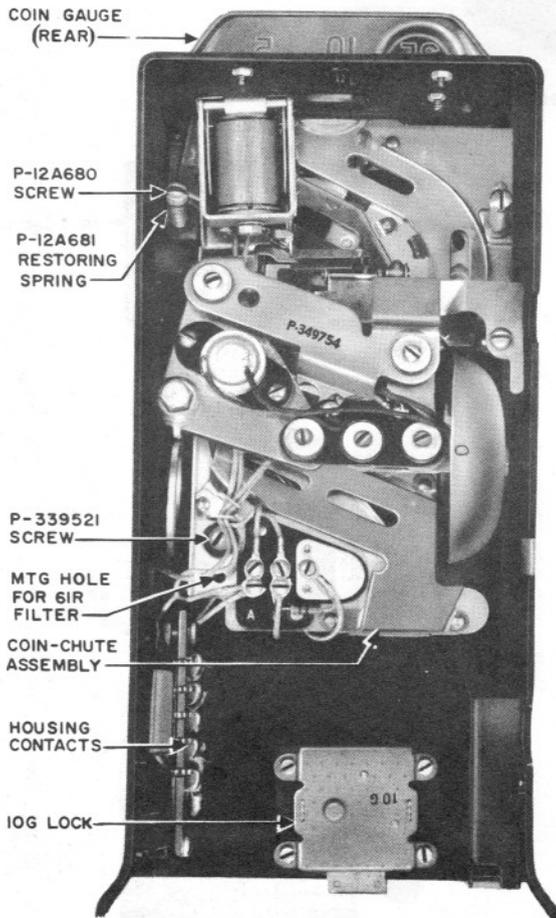

Fig. 9 - Upper Housing, Rear View
two P-12A680 screws, two P-12A681 restoring springs, and one P-339521 screw, as shown in Fig. 9. Coin chutes not associated with washer-reject mechanisms are mounted by three P-339521 screws.
4.13 A radio-frequency suppression filter, although it is attached to the coin chute, is not considered a part of the chute assembly. The filter when used is mounted on the rear side of the coin chute at the lower left corner. A mounting hole is provided as shown in Fig. 9. Dial postpay coin collectors are normally equipped with 61R filters. Dial prepay coin collectors when equipped with 61R filters should be identified by a red dot located on the back of the coin gauge.